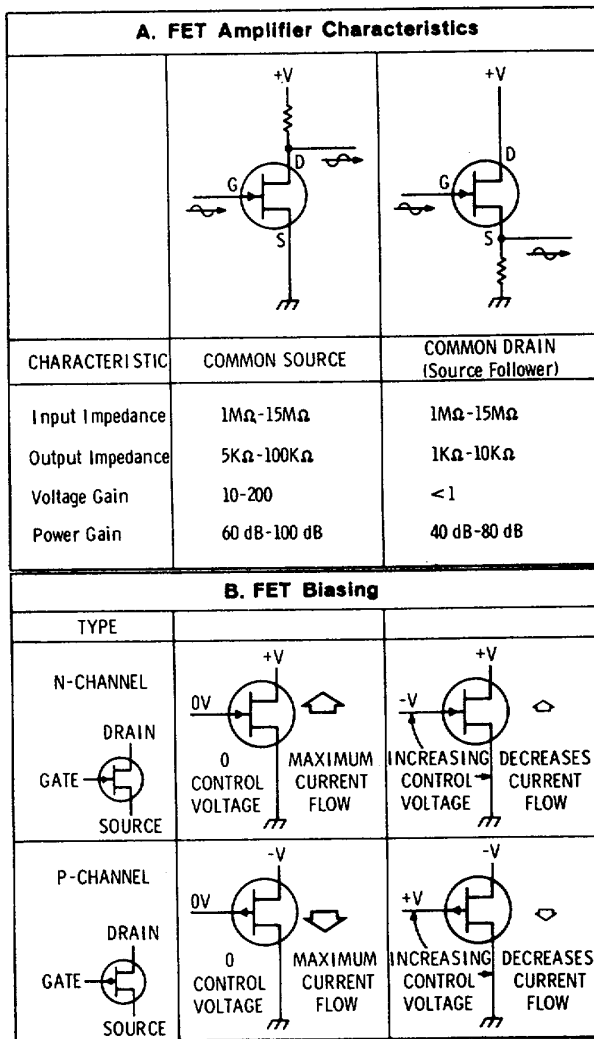

Figure 8-8. Field Effect Transistor Operation.
**8-32. Field Effect Transistor (FET).** Field effect transistors (see Figure 8-8) have three terminals; source, drain, and gate, which correspond in function to emitter, collector, and base of junction transistors. Source and drain leads are attached to the same block (channel) of N or P semiconductor material. A band of oppositely doped material around the channel (between the source and drain leads) is connected to the gate lead.
**8-33.** In normal FET operation, the gate-source voltage reverse-biases the PN junction, causing an electric field that creates a depletion region in the source-drain channel. In the depletion region the number of available current carriers is reduced as the reverse biasing voltage increases, making source-drain current a function of gate-source voltage. With the input (gate-source) circuit reverse-biased, the FET presents a high impedance to its signal sources (as compared with the low impedance of the forward-biased junction transistor base-emitter circuit). Because there is no input current, FET's have less noise than junction transistors. Figure 8-8 shows the schematic symbol and biasing for N channel and P channel field effect transistors.